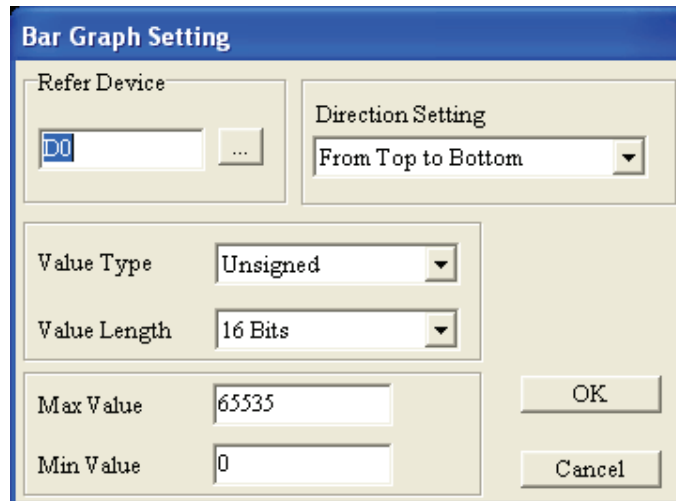

Figure 1-82
Step 1. Choose **Object(O) > Bar Graph(P)** command from the menu bar or click the icon  on the Toolbar. Then, move the mouse on the editing screen area, the cursor will be a +. Left click and drag the mouse in the editing screen area. After releasing the mouse, the square  will be made on the screen. Double-click the square  by using the mouse, the following Bar Graph Setting tab will pop up (Figure 1-82).